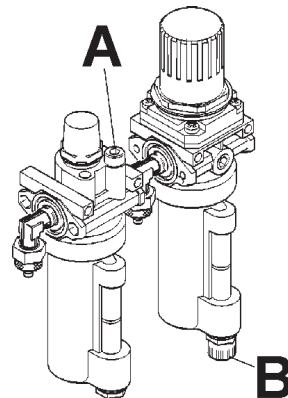

Fig. 6.0-3
H. Discharge water from air filter every day!! Do this by turning the knob "B" clockwise and push upward. Water will automatically be discharged. (see 'B' at Fig. 6.0-3).